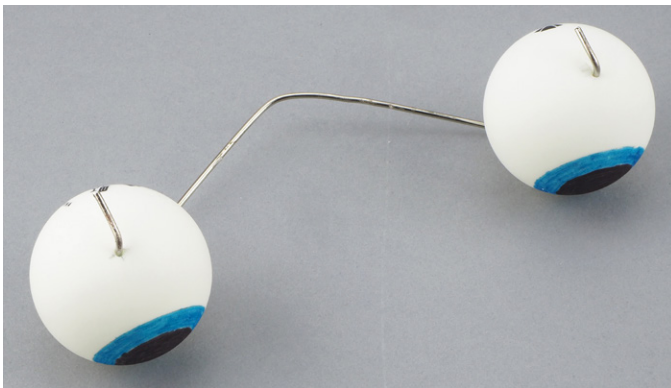

Figure 6-9: Placing the eyes on the frame
5. Make bends A and C first. Both should be 90 degrees. These will hold the eyeballs upright. Next, make a slight bend at the center of the wire—this is bend B. Bend B will provide something to tape onto the cardboard chassis you will make next. Place the eyeballs on the frame as shown in Figure 6-9.
6. Once you've mounted the eyeballs, you can bend the 10 mm tips of the wires over the eyeballs to prevent them from falling off, as shown in Figure 6-9. Use pliers to avoid hurting your fingers.